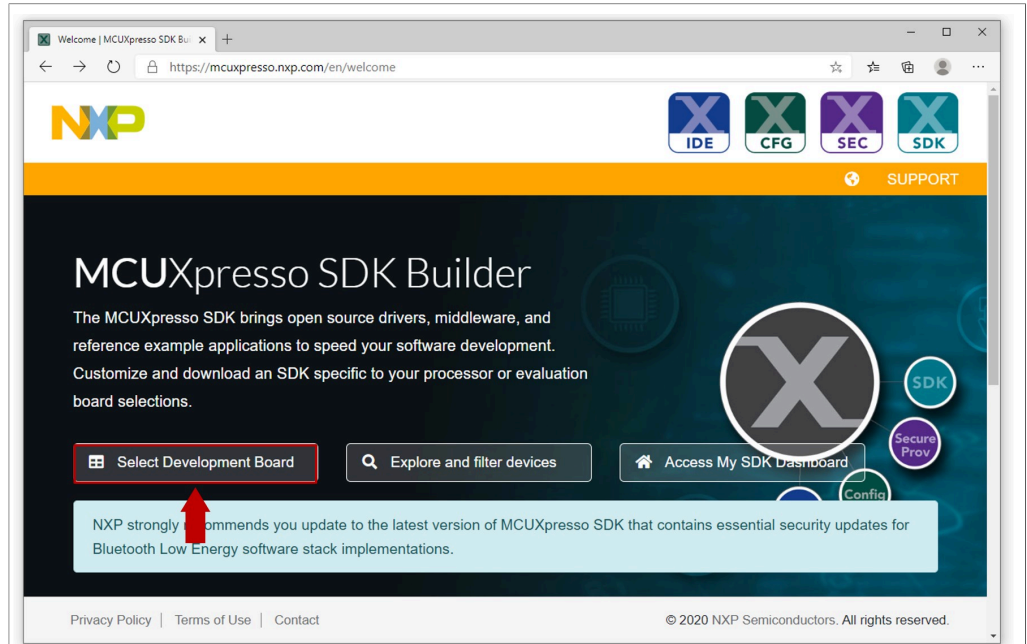

Figure 8. Select development board
1. Go to MCU SDK Builder and click *Select Development Board* as shown in Figure 8: